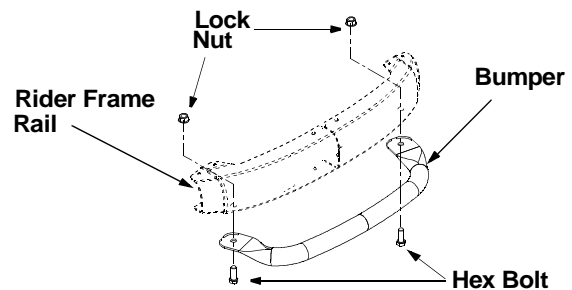

Figure 6
- Loosen and remove the two hex bolts and lock nuts from the front rail on the rider mower. See Figure 6.
- Align the two holes on the bumper tube with the corresponding holes on the rider frame (from where you removed the hardware). See Figure 6.